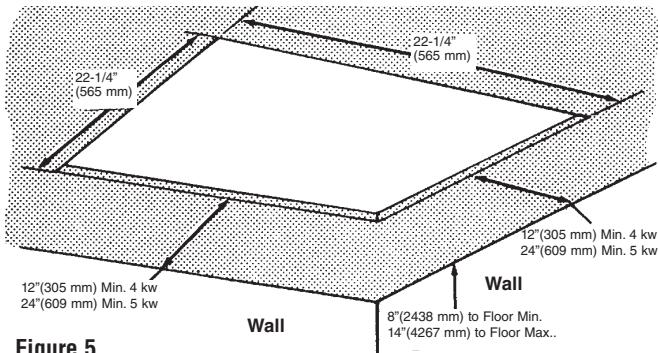

Figure 5
- Cut a 22-1/4" x 22-1/4" (565 mm x 565 mm) mounting hole in the ceiling for the recess mounting box (Figure 5).